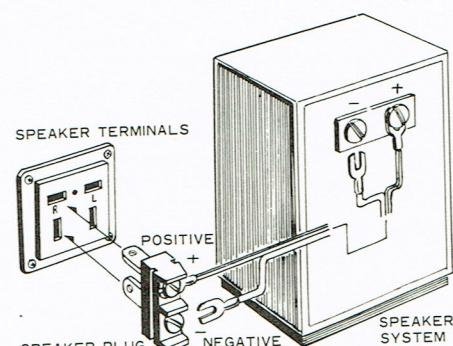

Fig. 8
• As shown in Fig. 8, the loudspeaker leads are connected to the speaker plug furnished with this receiver. In this case, be sure that the positive loudspeaker lead is connected to the positive terminal on the plug with reference to Fig. 8.